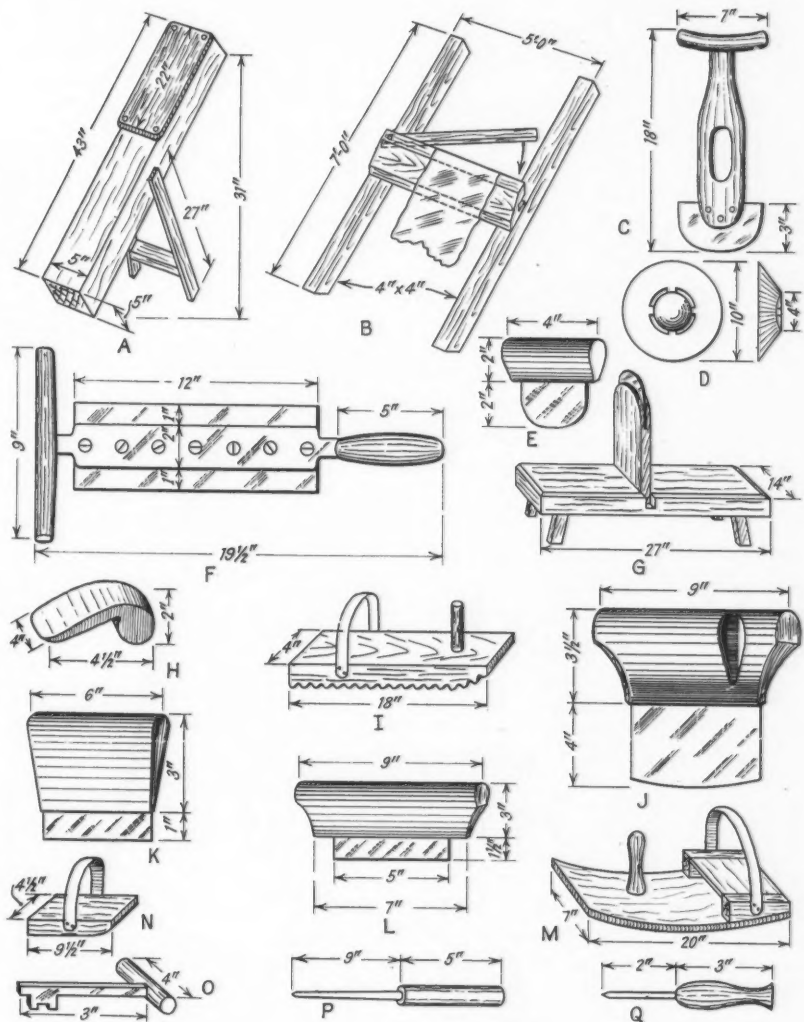

Fig. 2—CURRIER'S TOOLS
The curriers *beam* (Fig. 2 A) bore little resemblance to that of the tanner. It consisted of an upright plank, sometimes adjustable as to angle (G), and faced with a piece of *lignum vitae* (I, O, G), about two feet long, two inches thick and six inches wide, called a *beam board* (L). Beam boards were imported in the required size and shape (L). The shaving knife (Fig. 2 F), sometimes called a *head knife*, was a most curious and interesting instru-
which entered the handles (I). Sometimes the blade was fixed in place between the plates by rivets, and sometimes by threaded screws, and occasionally the handles also were screwed on to the ends of the plates, in which case, in order to take the tool apart, it was necessary to use a sort of key (Fig. 2 O), the end of which turned the heads of the screws which held the plates together, and the two lateral projections engaged in corresponding recesses in the end of the straight handle, so that the key could be oper-
ated as a crank to loosen it. The blade wore down so rapidly, through constant whetting, that it was worth-while economy to replace it, rather than discard the whole tool (R). Each side of the blade was "brought to a wire edge by rubbing on a stone of coarse grit" (L) called the *rub-stone* (D1998, No Fig.), "which edge is afterwards taken off, and a finer edge produced by a finer and softer stone" (L) called the *clearing-stone* (D1998, No Fig.). "The cross handle of the knife is then firmly fixed between the workman's knees, and while in a kneeling posture, he turns the edges to an angle with their former position, by means of a polished steel, similar in shape to a butcher's steel" (L), called the *turning steel* (D2366, Fig. 2 P). The wet skin (L) "being thrown flesh uppermost over the vertical beam, the shaver presses his body against it, and leaning over the top, holds the knife by its two handles, almost at right angles to the leather, and proceeds to shave it by a scraping stroke downward, which the wire edge, being set at right angles to the knife and almost parallel with the skin, turns into a cut" (I). The position of the skin was constantly shifted, so as to bring all parts of it under the action of the knife, the shaver frequently passing a fold between his fingers to test the progress of his work (G, I). To preserve the keenness of the knife, a smaller steel, called the *finger steel* (D2366, Fig. 2 Q) was constantly held between the workman's fingers (G, L) by the knob at the end of the handle, and as often as necessary, was passed along the edge (G, I) "the point within, and the side without the groove, formed by the turned edge" (L). The object of the shaving operation was to reduce and equalize the thickness of the leather (G, O).
The skin was then soaked in a weak solution of soft soap and borax (I), thrown, flesh side down, upon a table of stone or mahogany (G, No Fig.) and worked with a steel *slicker* (I, Fig. 2 J), sometimes called a *stretching iron* (D2427, F. G. O), to eliminate lumps and inequalities and to extend the skin (F, O). "The wooden part (of the slicker) is grasped in both hands and the blade is half rubbed and half scraped over the surface of the leather in successive strokes, the angle of the slicker being a continuation of the angle which the thrust out arms of the worker form with the body, perhaps 30° or 45°, with the leather, depending on the pressure to be applied"
(I). It was then *soured* on the grain or hair side with pumice stone (F, I, K, L), to clean off the surface bloom (F, K), and afterwards *sleeked* with a steel or brass slicker (I, Fig. 2 H) and then dried, and *stuffed* or *dubbed* (probably a corruption of daubed) with oil (F, G, K, L). "All the oiled or dressed skins are dressed with the round knife (Fig. 2 D), — a circular knife from 10 to 12 inches in diameter, with a round 4 or 5 inch hole in its center, for introducing the hands and working it. It is concave, presenting the form of a spherical zone. The concave part is that applied to the skin. Its edge is not perfectly straight; but is a little turned over on the side opposite to the skin, to prevent it from entering too far into the leather. \* \* \* A cylindrical bar fixed horizontally at its ends to two buttresses projecting from the wall, serves by means of a parallel stretched cord, to fix a skin by a coil or two in order to dress it. This is accordingly called the *dresser* (No Fig.). \* \* \* Strong-toothed pincers (No Fig.) with hook-end handles, drawn together by an endless cord, are employed to stretch the leather in any direction, while it is being dressed" (F). The workman then "lays hold of the pendant under edge with the pincers attached to his girdle, and with both hands applies the edge of the knife to the surface of the leather, slantingly from above downwards, and thus pares off the coarser fleshy parts of the skin. This operation requires great experience and dexterity; and when well performed improves greatly the look of the leather" (F).